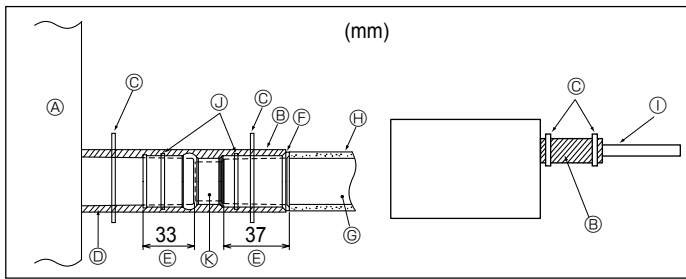

Fig. 3-5
1. Connect the drain socket (supplied with the unit) to the drain port. (Fig. 3-5) (Fix the tube using PVC adhesive then secure it with a band.)
[Fig.3-5]